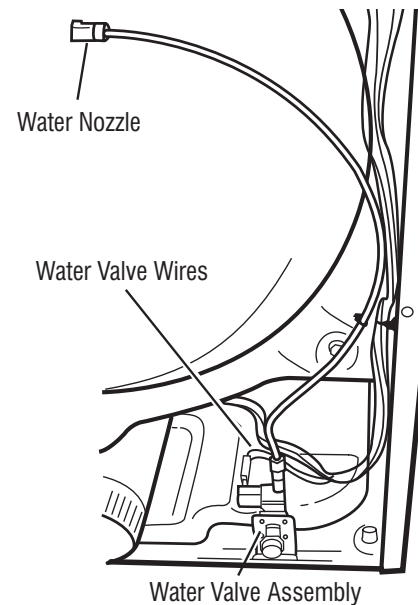

Figure 1 - Water System Components
- Check that the hose and wires are connected to the water valve assembly (see Figure 1).